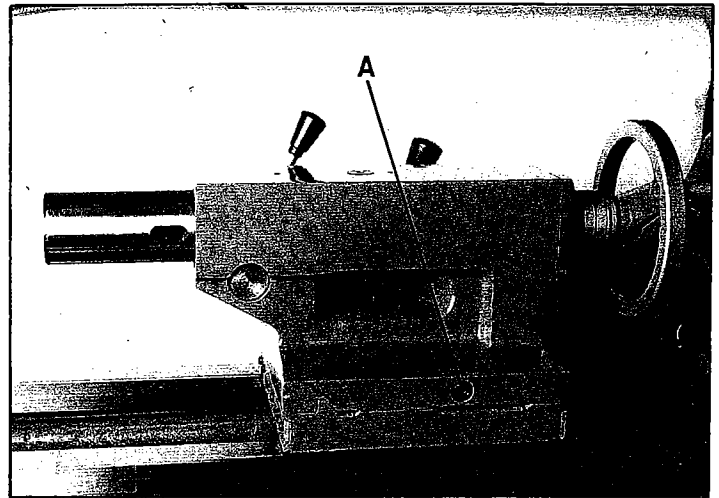

Fig. 33
3. If adjustment is needed, align the tailstock using the off set screws (A, Fig. 33) until the tailstock is aligned.